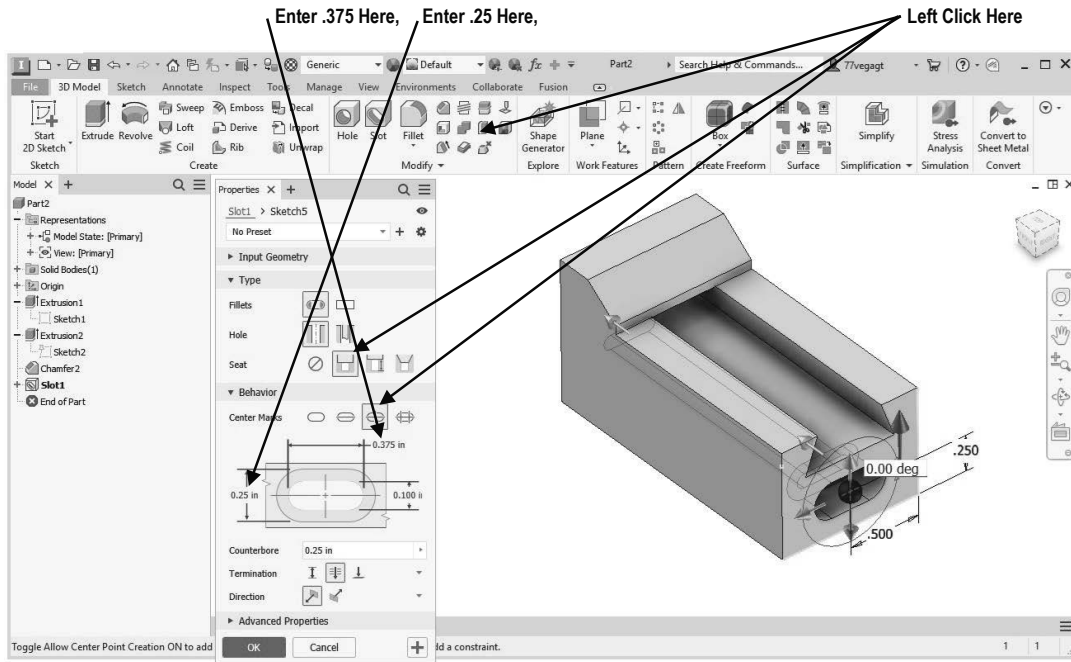

Figure 6
- Left Click on the **Slot** icon. The Slot dialog box will appear. Enter **.375** for the bore width, enter **.25** for the counterbore height as shown in Figure 6,